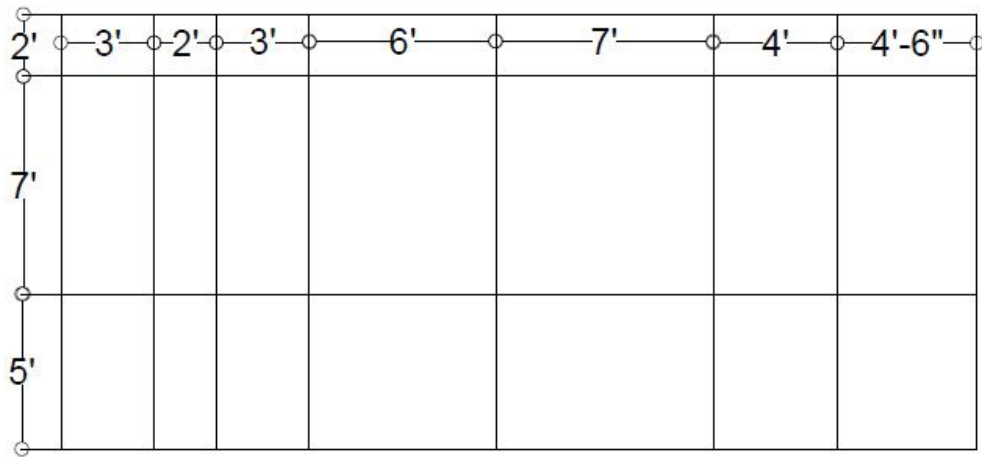

Fig 5.1
1. Draw the diagram in Fig. 5.1 using AutoCAD through appropriate commands.